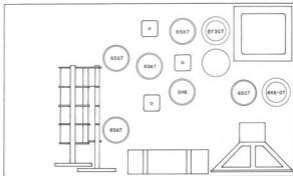

Figure 7. Radio Receiver Model S-40B, BU, view showing tube locations.
- (1) See that the tubes are securely seated in their sockets. Refer to Figure 7 for the proper location of each tube.
- (2) Check the pilot lamps located behind the dial escutcheons and see that they are securely in place.
- (3) Check all external connections. See that they are secure and make positive contact. Remember that an improvised installation gives improvised results.
REPLACING TUBES AND DIAL LAMPS. - When replacing tubes, check the tube type carefully and replace with the correct type. Refer to the top of the receiver chassis, Fig. 7, to determine the location of each tube. The receiver employs two dial lamps with bayonet type sockets to illuminate the two dial scales. Replace these with similar types, 6/8 volt, 250 ma., "blue bead" G.E. #44 or equivalent. The color code referred to is the color of the glass bead above the glass stem inside the envelope of the lamp.